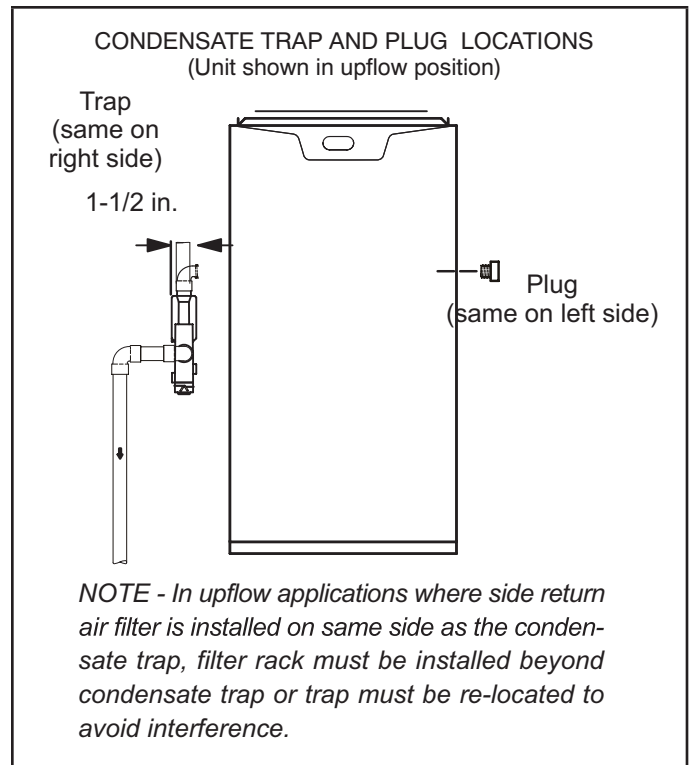

FIGURE 33
This unit is designed for either right- or left-side exit of condensate piping in upflow applications. In horizontal applications, the condensate trap must extend below the unit. An 8" service clearance is required for the condensate trap. Refer to figures 33 and 35 for condensate trap locations. Figure 41 shows trap assembly using 1/2" PVC or 3/4" PVC.
- 2 - Use a large flat head screw driver or a 1/2" drive socket extension and remove plug (figure 33) from the cold end header box at the appropriate location on the side of the unit. Install provided 3/4 NPT street elbow fitting into cold end header box. Use Teflon tape or appropriate pipe dope.